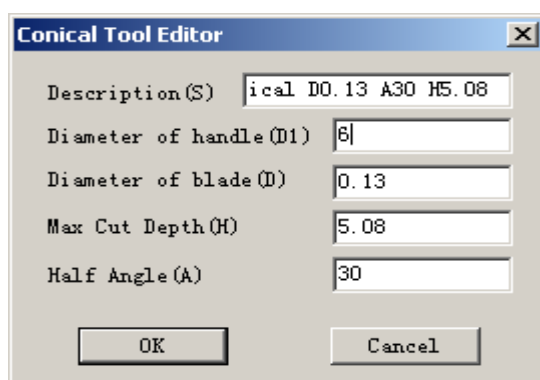

Fig. 10-7
Conical parameters include: diameter of handle (D1), diameter of blade (D2), height of blade (H) and angle (A) (half angle) (Fig. 10-7)